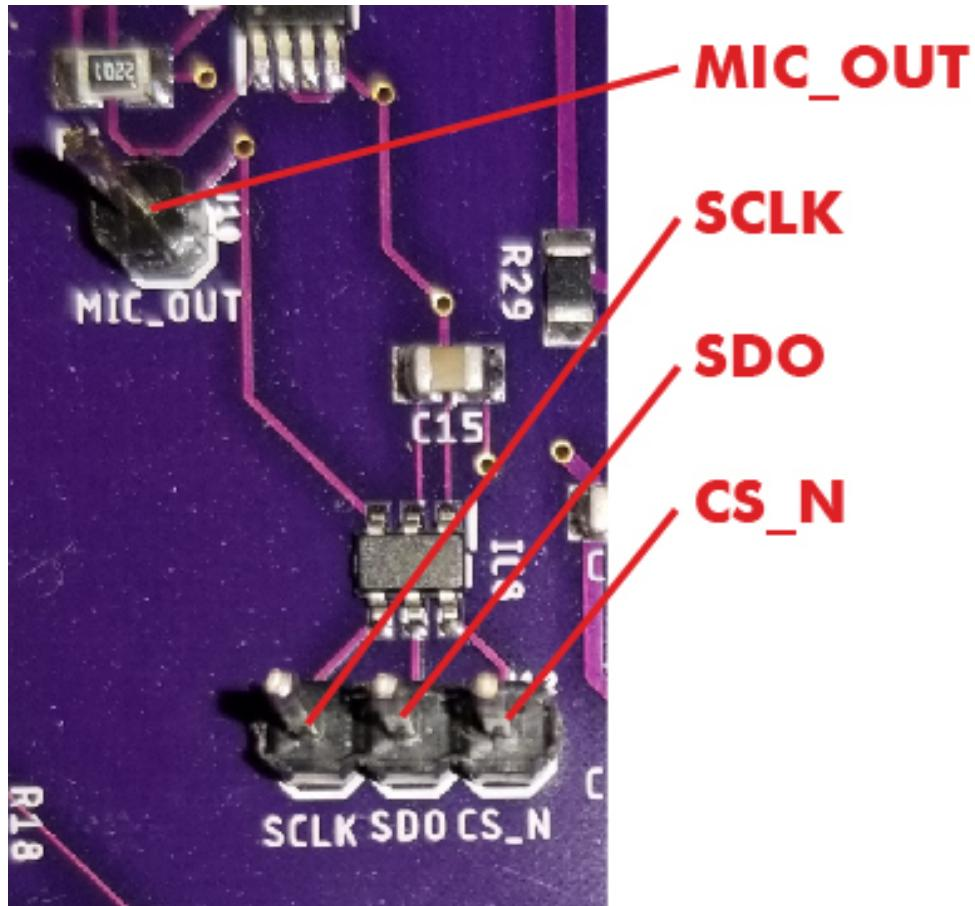

Figure 2.4: External ADC on hardware
3.3V. The analog signal is on the node labeled MIC\_OUT and is directly wired the output of the instrumentation amplifier of the microphone. The input is also addressable from the labeled header pin (See Figure 2.4).
Figure 2.4 shows the related schematic. Table 2.4 shows the pin assignment.